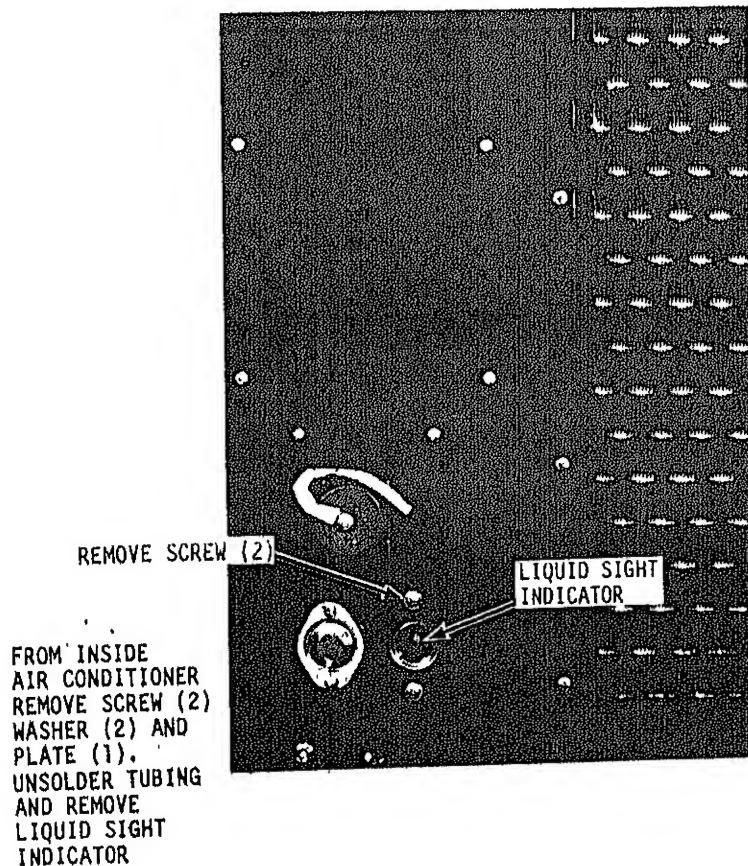

Figure 5-9. Liquid sight indicator removal and installation
a. General. The liquid sight indicator provides a heavy glass port-hole to give visible indication of refrigerant flow. Figure 1-2 shows the location and figure 5-9 is a closeup view.
(4) Refer to figure 5-9 and remove the liquid sight indicator mounting plate.
(5) Unsolder the liquid sight indicator from the refrigerant system tubing.
(1) Refer to figure 5-9 and install the liquid sight indicator and its mounting bracket.